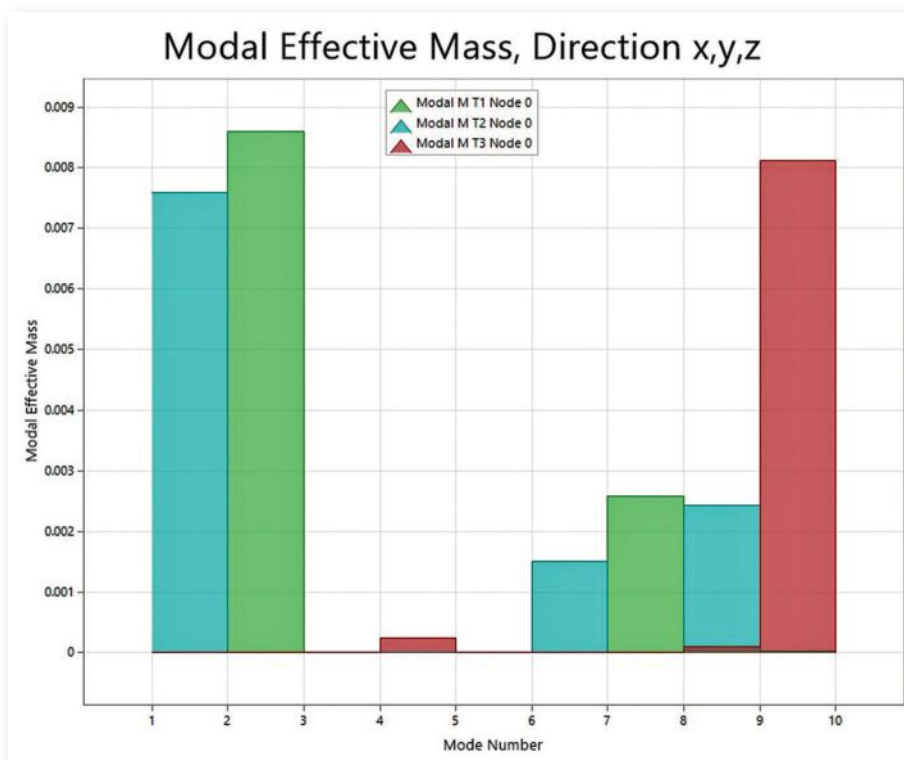

FIG 3: Modal Effective Mass table (translational).
Modes 1 and 4 are the likely contributors under the loading shown. However Fig. 3, the Modal Effective Mass contribution, shows Mode 1 is dominating. Also of interest is that modes 1 and 2 are very close at 451Hz and 491Hz. We want to characterize the highest frequency (2,301Hz) accurately and typically assume 10 points on each sinusoidal time period (T). To capture a reasonable fidelity, calculate T, where T is 1/Frequency and divide by 10. In our case this gives a time step of 43.5E-6 seconds. It is often easier to think and work in terms of milliseconds (ms) rather than seconds to avoid cumbersome numbers. The time step is therefore 0.0435 ms. Be careful to input all of the data into the FEA solver in seconds.